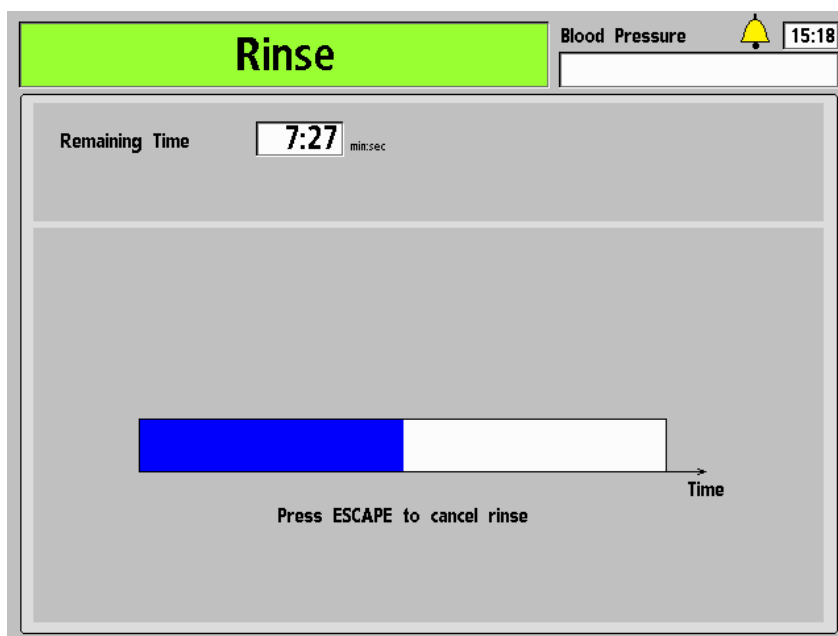

Figure 92 – The Rinse Screen
2. From the “Select Program” screen, select the **Rinse** button. The “Rinse” screen will be displayed (see Figure 92). The progress of the rinsing is indicated by the horizontal bar.